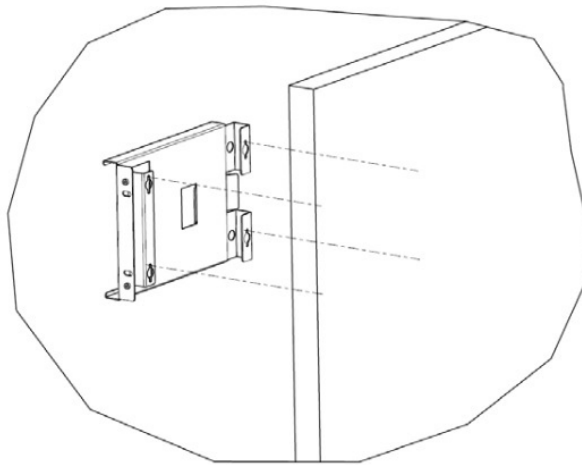

Figure 1
3. Install the mounting bracket using the hardware provided: Screw 6-32 X 1 1/8" L Pan Head PH (4 each); #6 Split Lock Washer (4 each); #6 Flat Washer (8 each); #6 Hex Nut Self Locking (4 each) as shown. (You will need to separate the mounting bracket from the Horizontal Mounting assembly.) Tighten all hardware until the mounting bracket is firmly attached to the mounting surface. (See Figure 1)
3. Install the mounting bracket using the hardware provided: #6-18 X 5/8" PH Rd HD Woodscrews as shown (4 each). (You will need to separate the mounting bracket from the Horizontal Mounting assembly.) Tighten all hardware until the mounting bracket is firmly attached to the mounting surface {See Figure 1}.